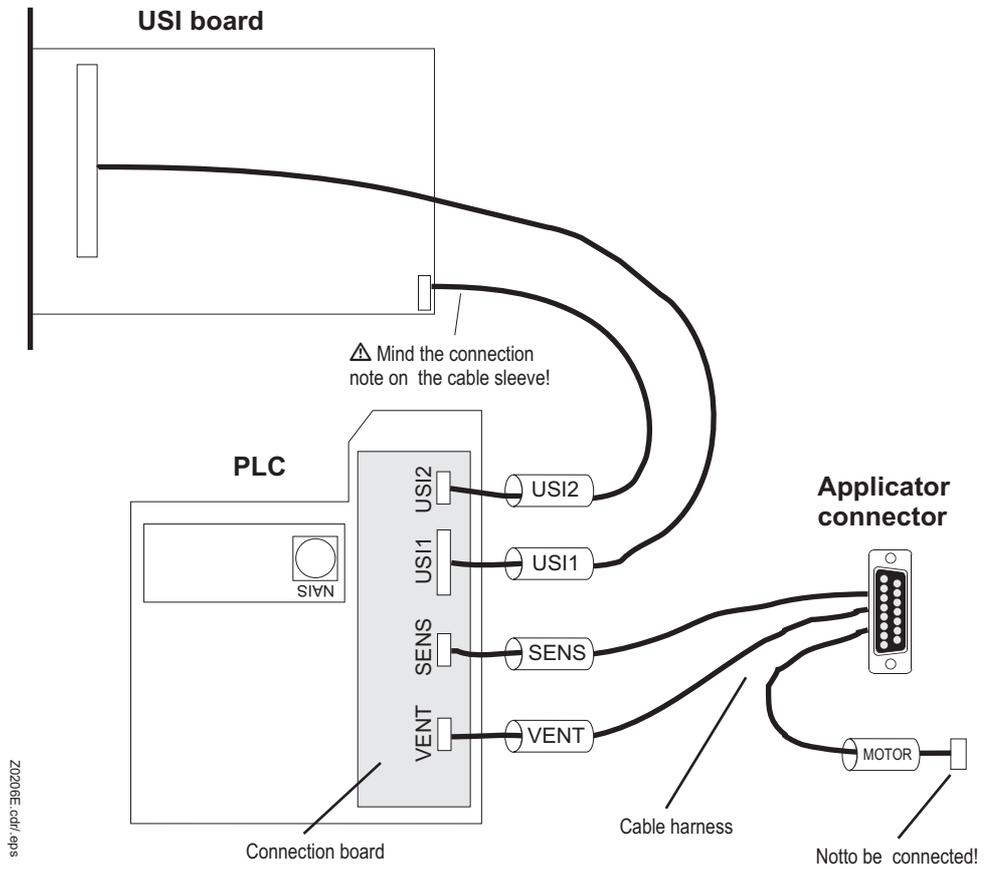

Fig. 1: Correct connection of the PLC for LTP/LTPV to an 64-xx.
5. Fit the D-Sub plug of the *new* cable harness to the housing (fig. 1).
The cable harness fitted earlier consists of three cables, labeled VENT, SENS and MOTOR. Two connectors on the PLC board are also labeled VENT and SENS (see figs. 1 and 2).
The cable harness fitted earlier consists of three cables, labeled VENT, SENS and MOTOR (fig. 1). Two connectors on the PLC board are also labeled VENT and SENS.